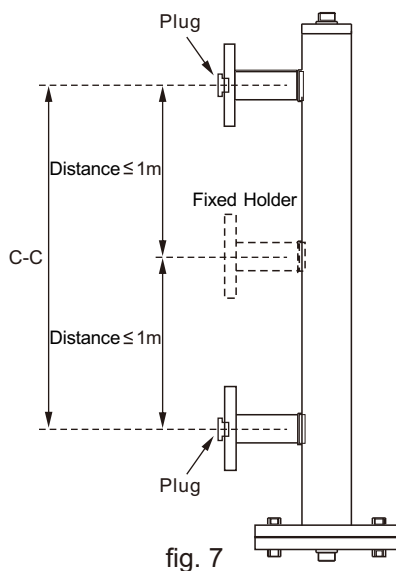

fig. 7
11. A fixed holder is recommended to be used in between center to center flanges when distance is beyond 1.5 meters. Maximum distance between two fixed holders or center flange to fixed holder can not exceed 1 meter for best stability. Fixed holders will be a custom-made accessory for different applications. To order, please fill out the request in order form as shown in fig 7.